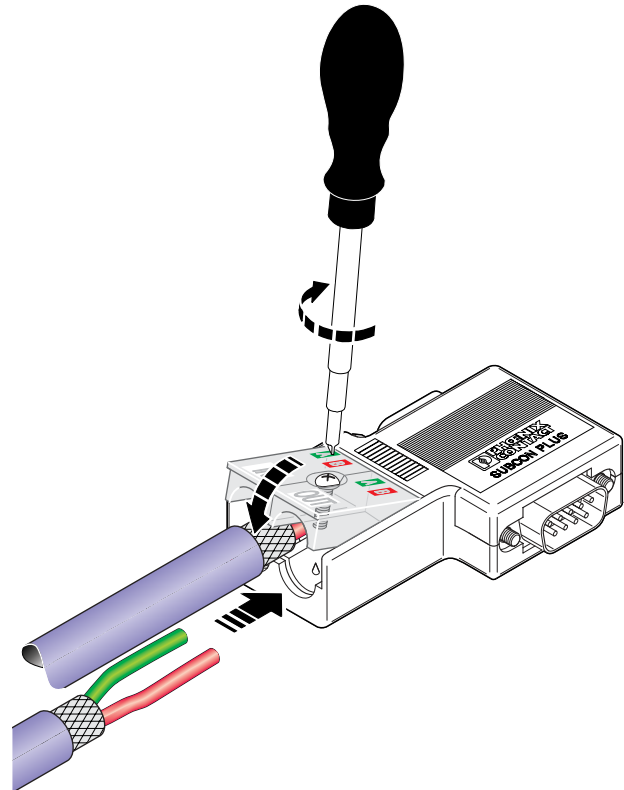

Figure 5 Connection
- The outgoing bus cable is always connected to terminal block connections 2A/2B (see Figure 5). Note the color-coding of the connection terminal blocks.